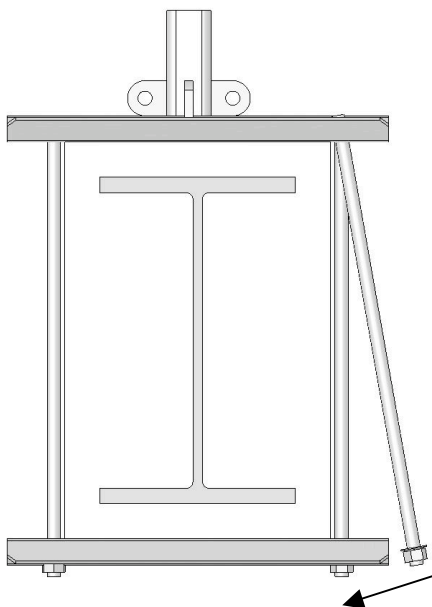

Figure 7 – Installing rods into slots
6. Lift Bottom Plate and swing bolts over end of bottom plate and into slots (see Figure 7). Be sure flat washers are in place. Tighten as specified.